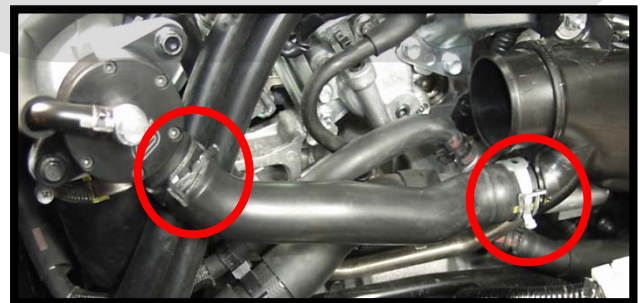

Figure 3a
- a) Using pliers, release the hose clamps (red circles in Figure 3a) located on the bypass valve hose.
- a) **Using pliers, release the hose clamps (red circles in Figure 3a) located on the bypass valve hose.** Remove the hose from the car and save if you are re-using it. You can discard the rubber hose and spring clamps if you will be installing the optional CorkSport Silicone BPV Hose.